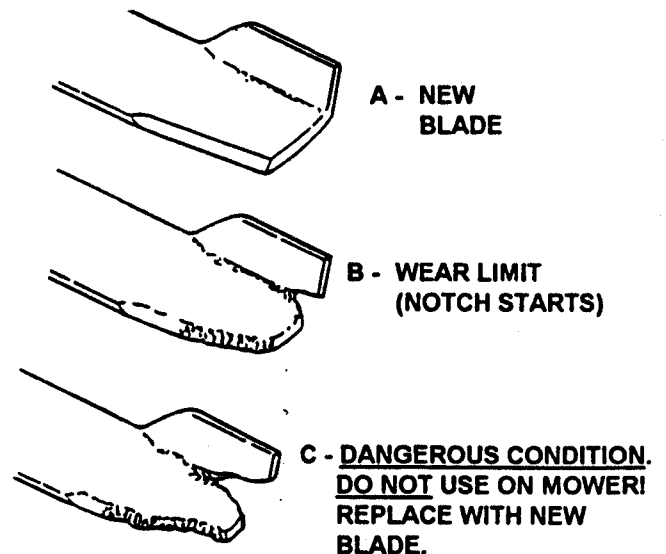

FIGURE 4.5
1. Inspect blade frequently for signs of excessive wear or damage. See Figure 4.5.
Never use a cutting blade that shows signs of excessive wear or damage. Refer to Figure 4.5.
2. Inspect condition of blade. Refer to Figure 4.5.
5. Reinstall blade. Refer to Figure 4.5. Torque blade mounting bolts to recommended range of 70 to 80 ft. lbs.